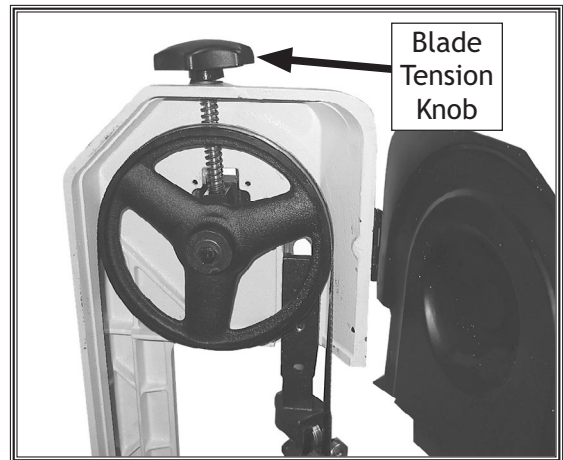

Figure 19. Blade tension adjustment knob.
3. Open the blade cover, as shown in **Figure 19**, slide the blade guides as far apart as possible, then secure them in place